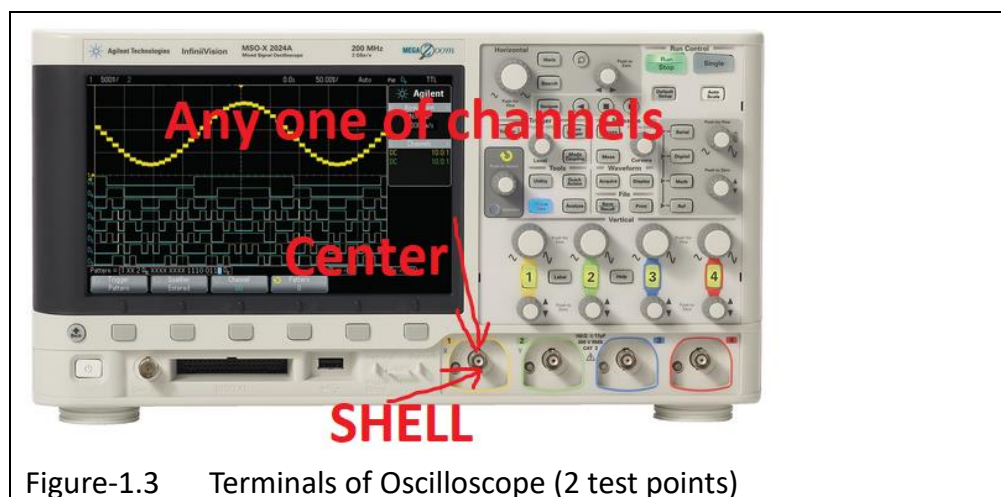

Figure-1.3 Terminals of Oscilloscope (2 test points)
4. As the table below, locate the terminals of the Oscilloscope (Figure-1.3), Signal Generator (Figure-1.4), resistor (Figure-1.5) and desktop DMM (Figure-1.6 and 1.7), check them are ground/floated.